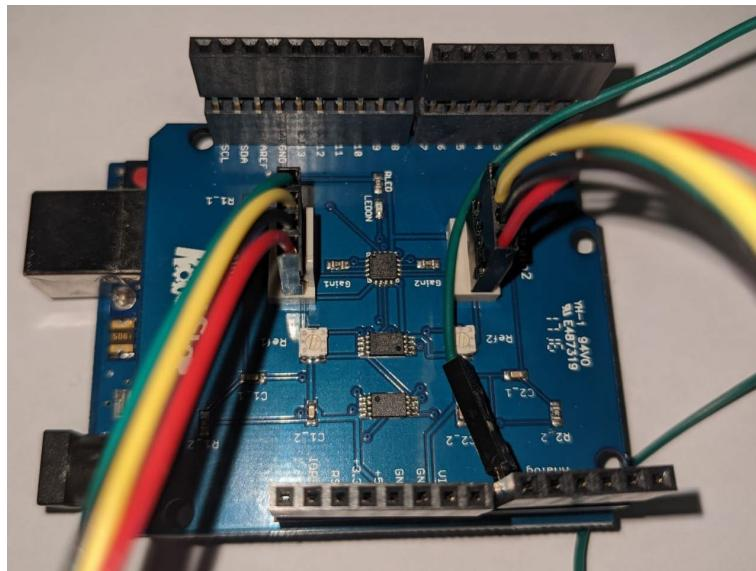

Figure 16 – Placement of LCD jumper cable.
Step 3: The next screen is used to set the low pressure used for calibration (Figure 16). Use the UP/DOWN (10 mmHg increments) or left/right buttons (1 mmHg increments) to set the low calibration pressure to 0 mmHg. Save this value by pressing “ENTER”.